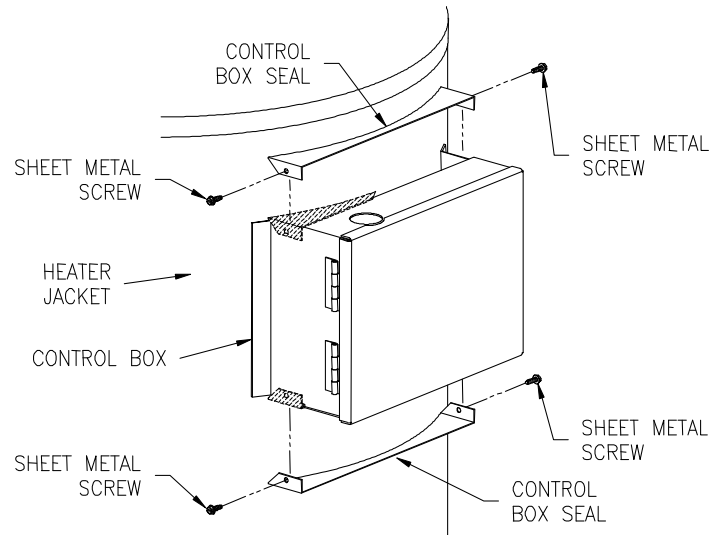

Figure 1
1. Place control box seals on top and bottom of control box sealing gap between control box and water heater jacket. Attach control box seals to control using sheet metal screws. Two (2) seals are required. Attach one (1) to topside of box and one (1) to bottom side of box (**see Figure 1**).